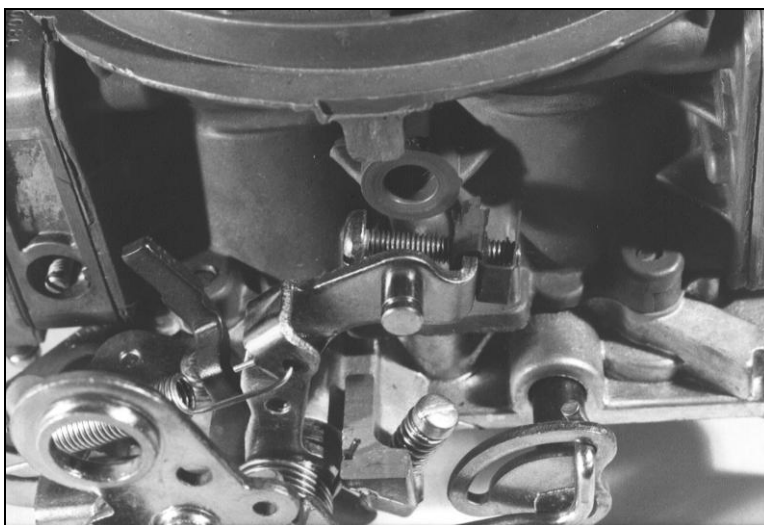

FIGURE 11
4. As shown in Figure 11, attach the transmission kickdown lever return spring, spring bracket, adjusting screw and locknut.